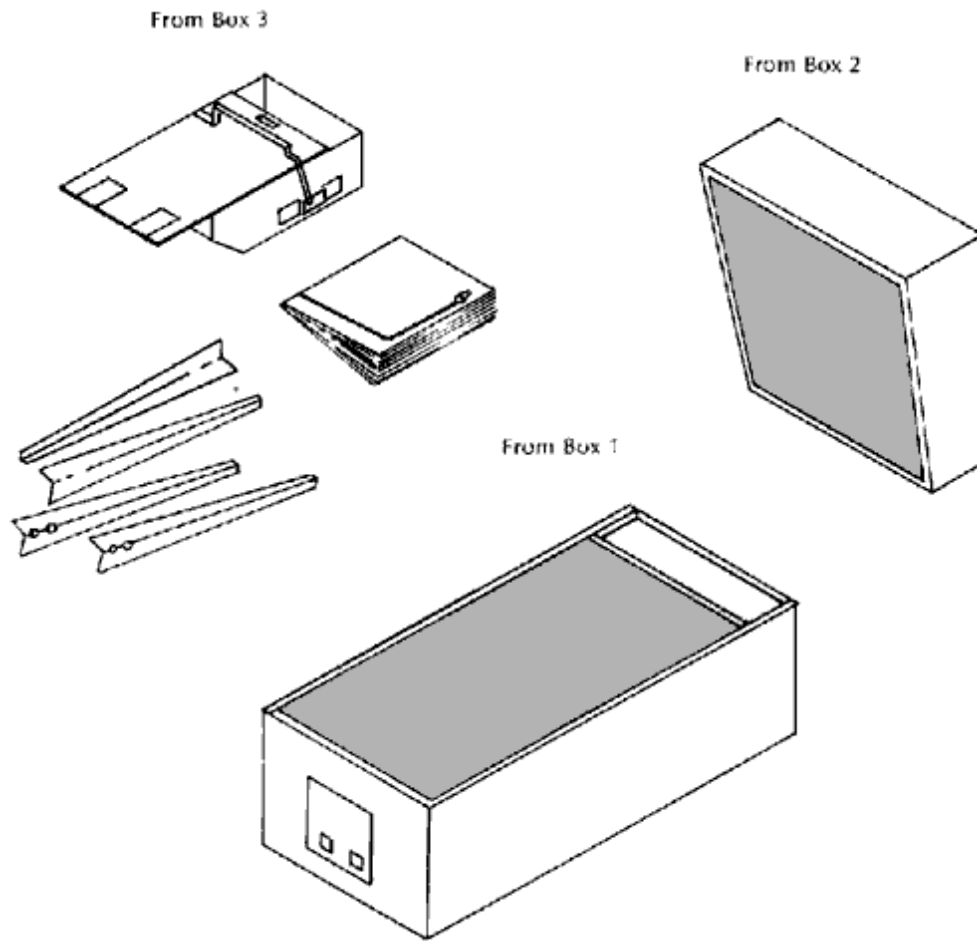

Figure 1: Inventory of Accessories
- Figure 1: Inventory of Accessories
Open the cash box and take an inventory of accessories as shown in Figure 1.